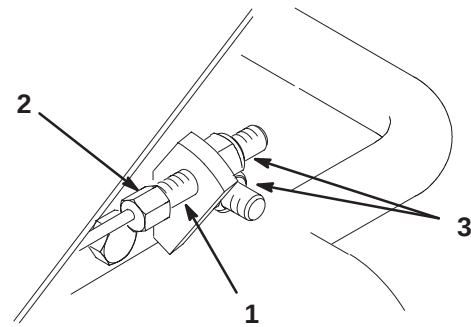

Figure 53
1. Tension the cable by securing the cable end hex with an open end wrench and turning the nut on the cable end with another wrench (Fig. 53).